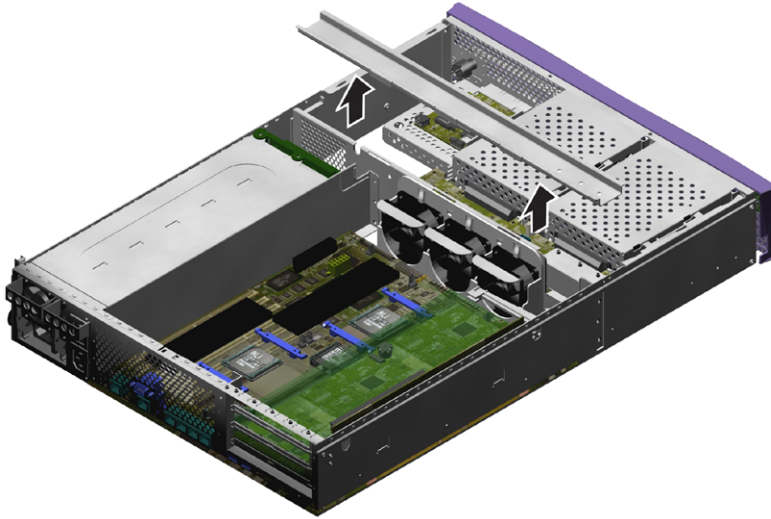

FIGURE 1-6 Removing the U-Channel
5. Unclip the U-channel that runs across the server and remove it (FIGURE 1-6).